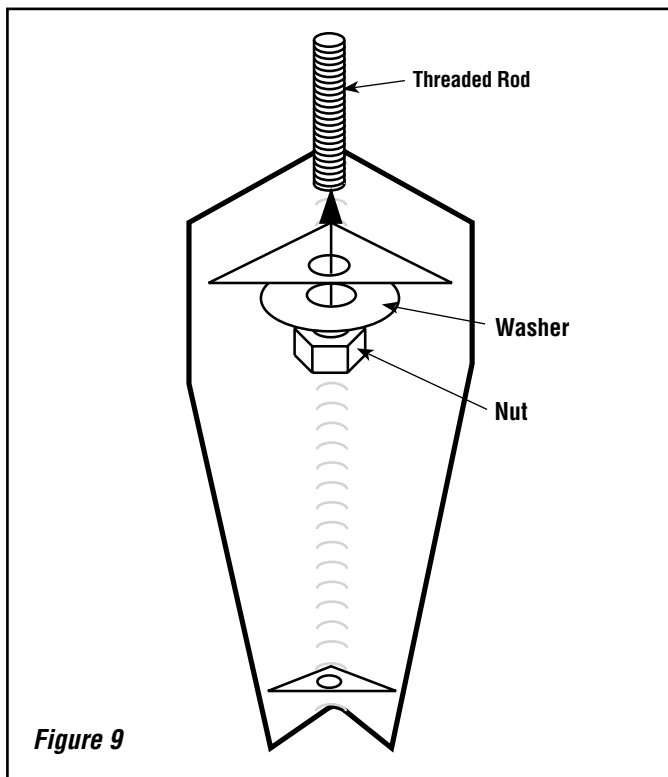

Figure 9
2. Mount all four legs as shown in *Figure 9*.